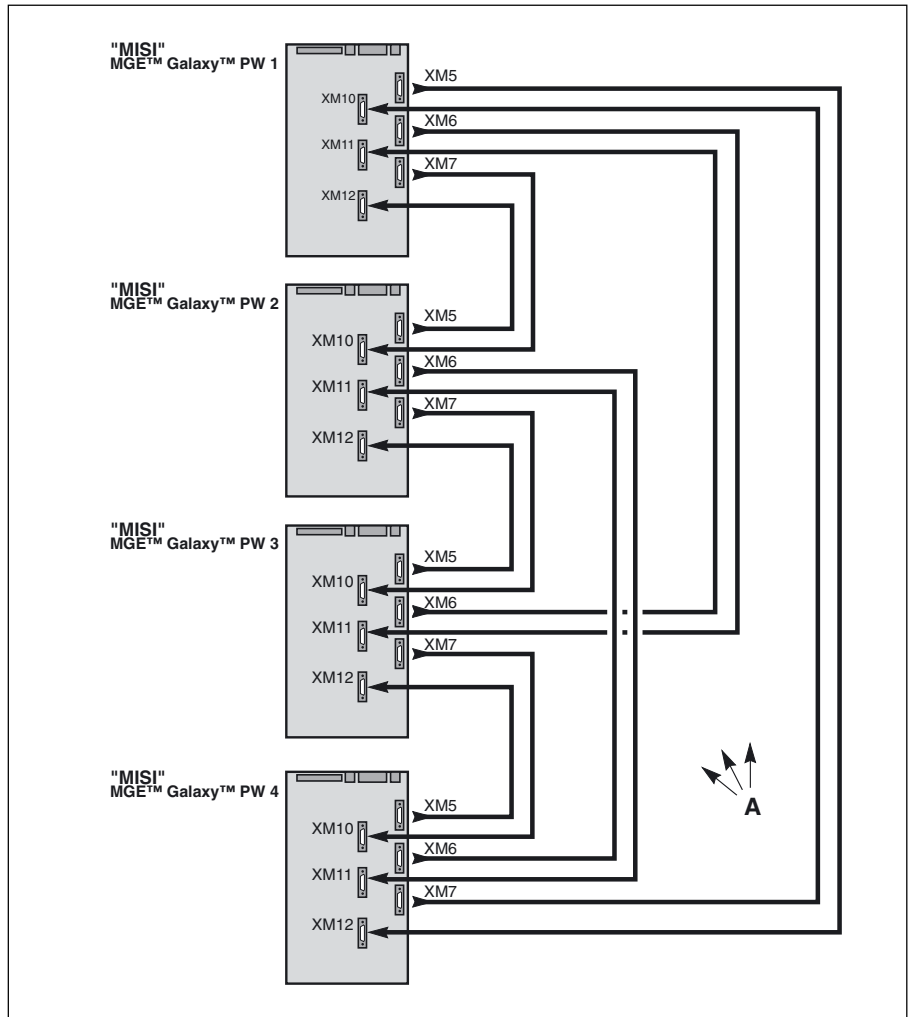

Fig. 30
- ▶ situation with four parallel UPS units: see figure 30.